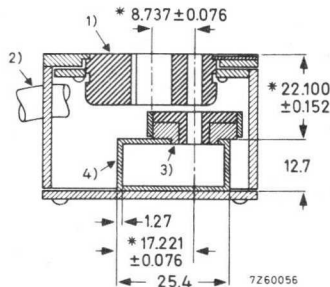
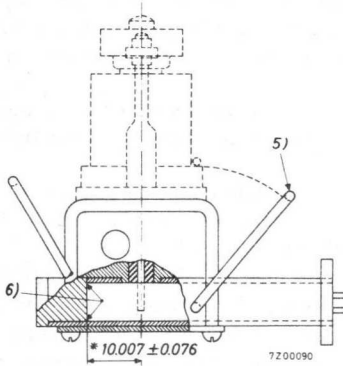

Fig. 1 Cross section of the mount (coupler)
Fig. 2 Side-view of the mount
For good broadband performance the tube should be inserted in a suitable mount. The mount recommended is shown in Fig. 1. It consists of a section of 3 cm waveguide (RG-52/U; outside dimensions 25.4 x 12.7), shortcircuited at one side, into which the aerial of the tube penetrates. The position of the aerial with respect to the waveguide is shown in Fig. 2.
* See under Fig. 1